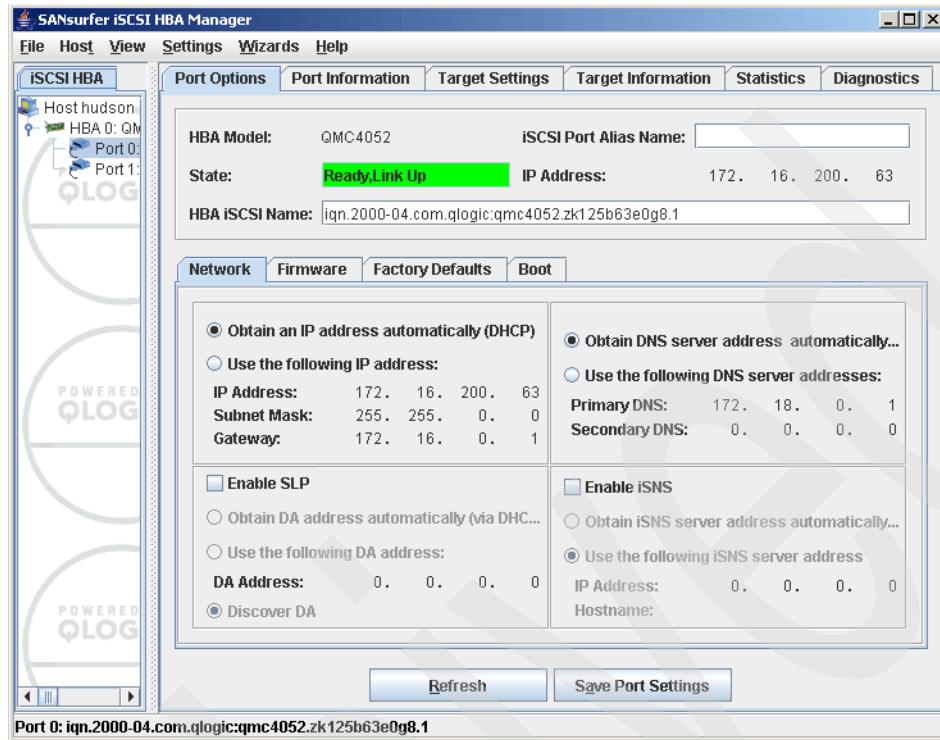

Figure 21-40 SANsurfer - Assigned DHCP address to an iSCSI port
6. After the configuration refresh is done, the IP address assigned by the DHCP server is visible. See Figure 21-40.